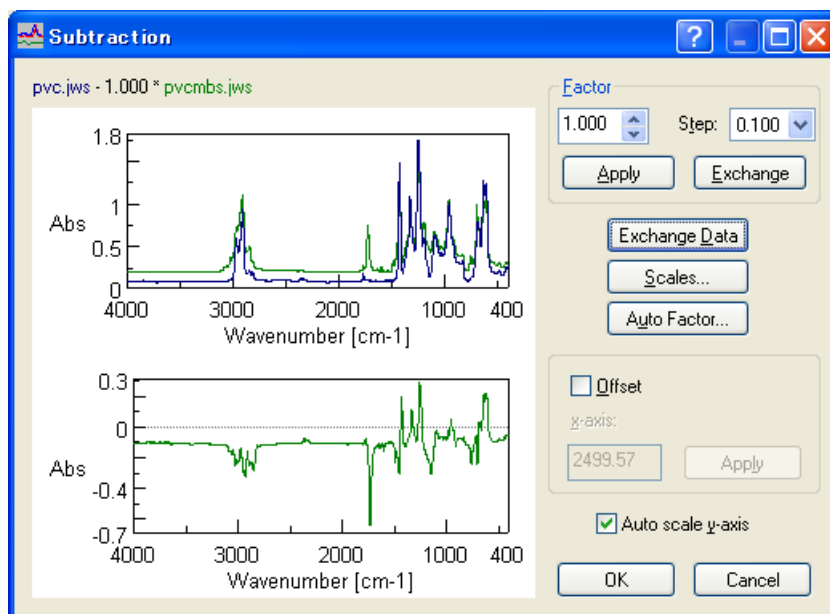

Figure 3.49 [Subtraction] dialog box
Determines a difference spectrum from two spectra. (Fig.3.49)
- When two spectra are displayed, the [Subtraction] dialog box appears. (Fig. 3.49)
<Exchange>	Exchanges the spectrum to be multiplied by the factor. In the above figure, (Fig. 3.49) clicking the <Exchange> button will change the calculation from $((\text{Factor} \times \text{pvc.jws}) - \text{pvcmb.jws})$ to $(\text{pvc.jws} - (\text{Factor} \times \text{pvcmb.jws}))$.